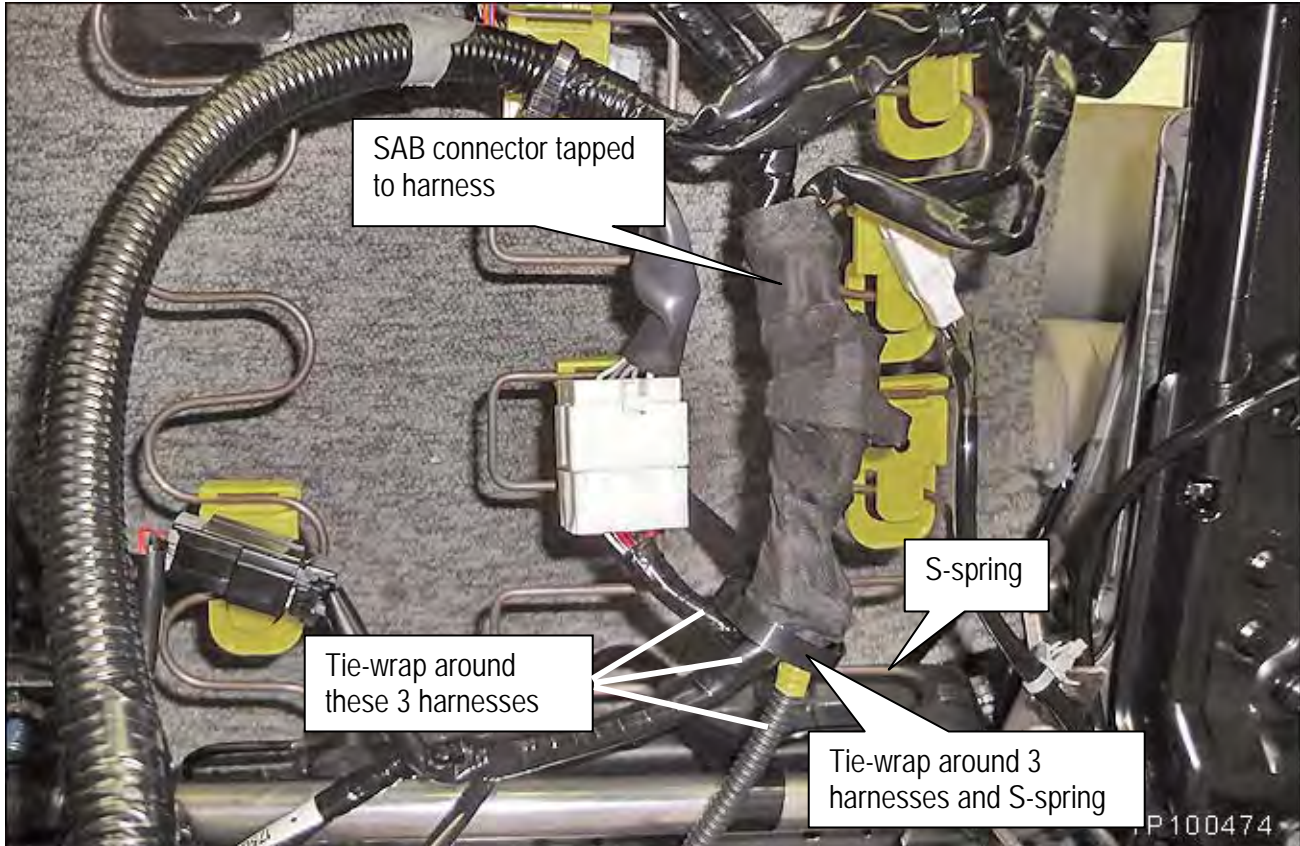

Figure 11c
11. Completely tape the SAB connector to the seat harness as shown in Figure 11c.
12. Attach tie-wrap (P/N 24216 – S5800) around harnesses and S-spring as shown in Figure 11c.